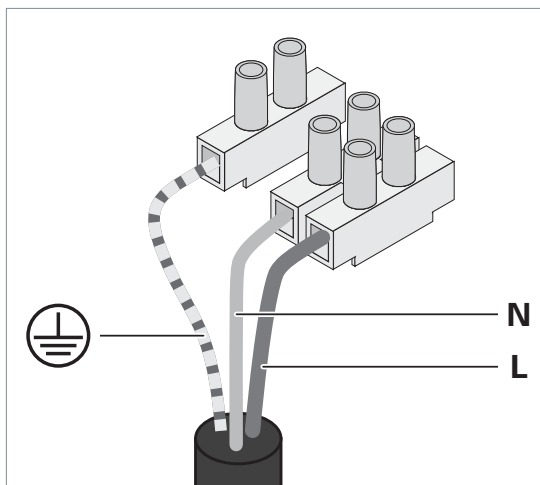

Fig. 14: Connecting the suspended luminaire.
- ▶ Connect the luminaire to the terminal, see Fig. 14.